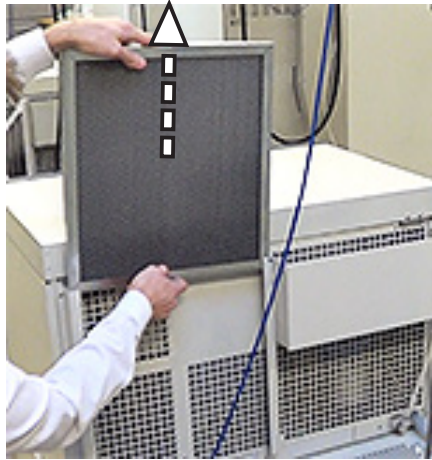

Figure 16.5a: Q-SUN Xe-1 Air Filter Removal
- Remove and inspect the air filter every month (Figure 16.5a).
- Washable air filters in service for more than three (3) years must be replaced (see Section 18 for part numbers).
- Washable air filters in service for less than three (3) years can be cleaned as shown in the Washable Air Filter Cleaning instructions.